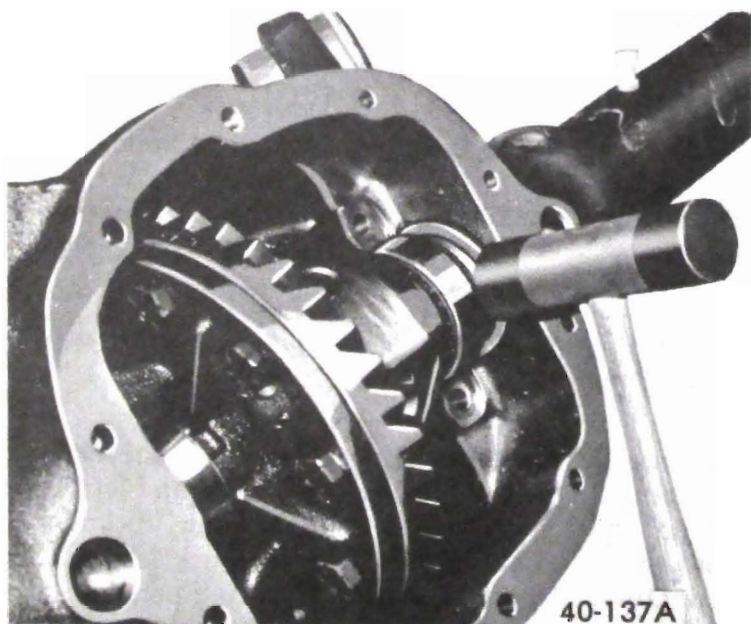

Figure 40-141 - Installing Differential Adjusting Shims
2. Place differential case and bearing assembly in position in carrier. Use service type adjusting shim totaling same thickness as original production type adjusting shims if either new or reused bearings are to be used. Slip left shims in position at left bearing with steel shim next to bearing, then place nominal thickness shim for right side in position and drive steel shim carefully into position between bearing and cast shim using a soft hammer. See Figure 40-141.